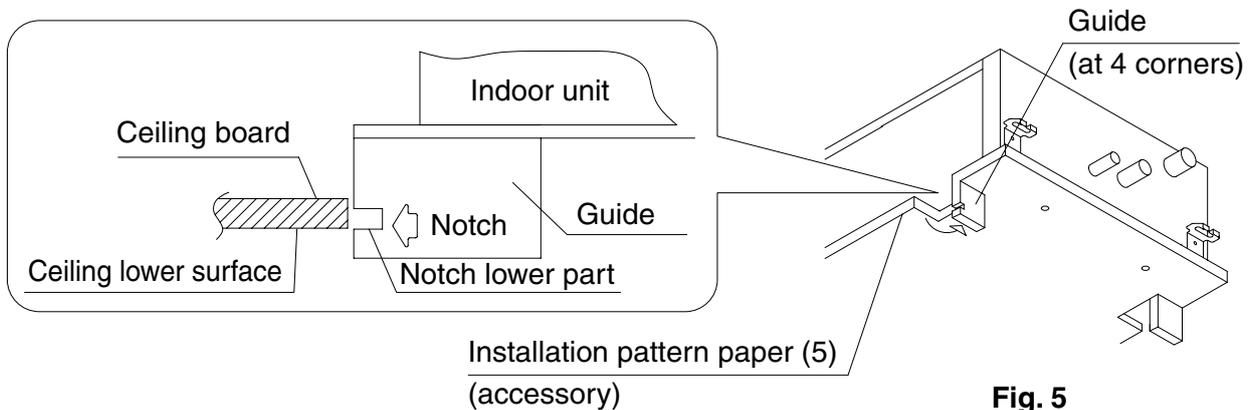

Fig. 5
- Fold the guides (4 places) shown in the installation pattern paper (5). Adjust the indoor unit height from the floor level so that the ceiling lower surface and the notch lower part will match together. (Refer to Fig. 5)
- Cut off the guides from the installation pattern paper (5) and place the guide to the indoor unit bottom. Adjust the unit height from the floor level so that the ceiling lower surface and the notch lower part will match together. **(Refer to Fig. 5)**